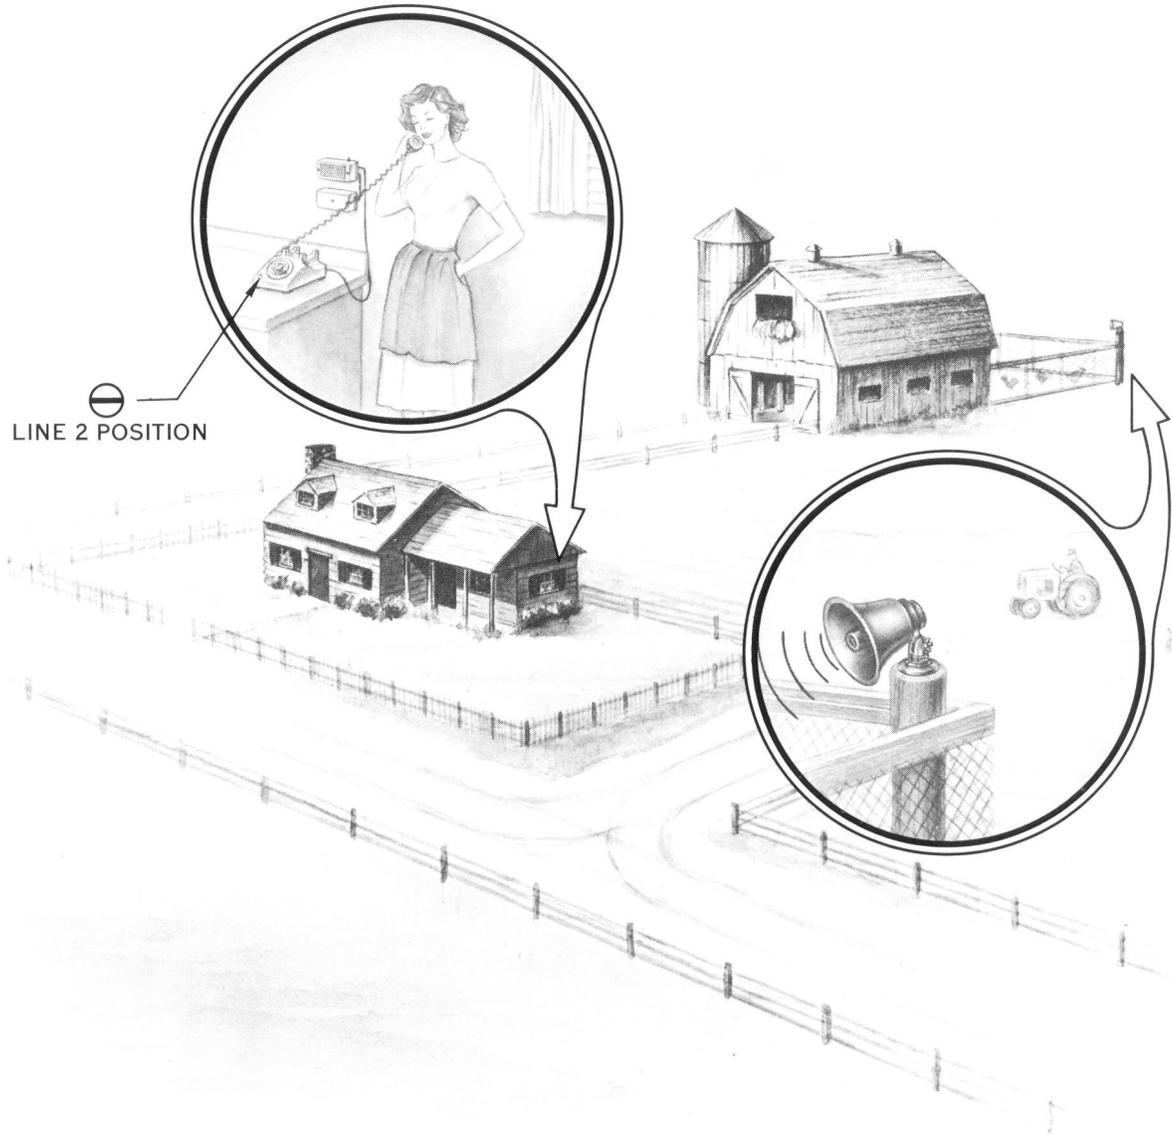

Fig. 9 - Voice Calling
3.04 To signal from any telephone set, place line switch in line 2 position and operate the push-to-talk bar of the handset. This connects the calling station to all loudspeakers in the system via the amplifier in the control unit. There is no way to select certain speakers since all loudspeakers are bridged at the control unit. (See Fig. 9.)